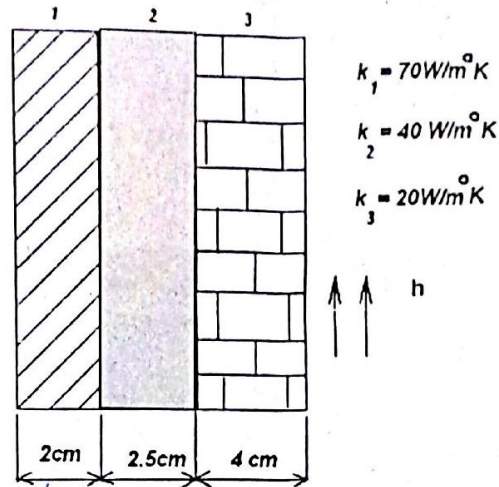

Fig.15(a)
15. (a) A composite wall consists of three materials as shown in Fig.15(a). The inside wall temperature is 200°C and the outside air temperature is 50°C with a convection coefficient of $10 \text{ W/cm}^2 \text{ }^{\circ}\text{C}$. Determine the temperature along the composite wall.